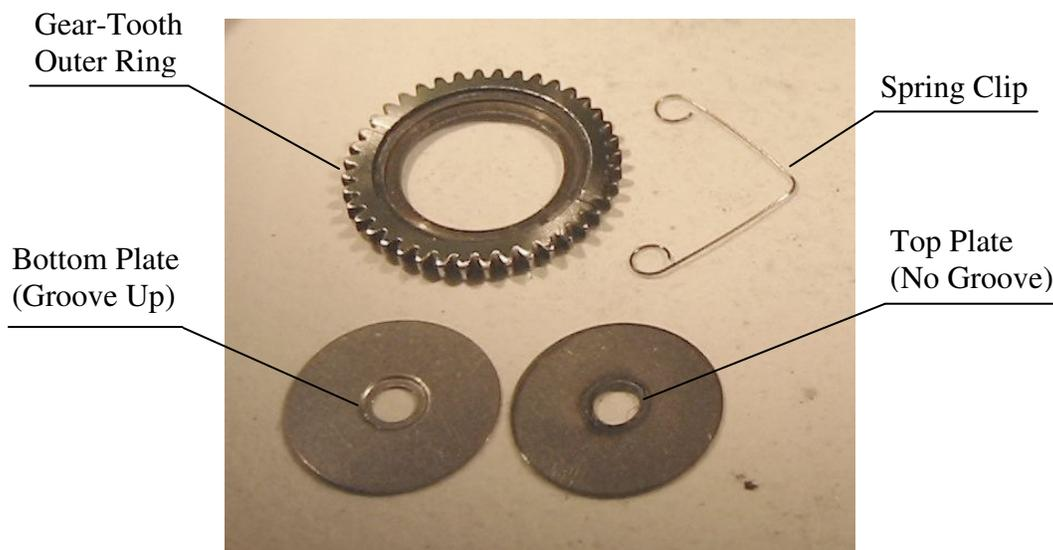

Figure 10 Individual components of a Fishione high-angle specimen holder.
- (1) Place a circular-aperture bottom-plate (groove face up) onto a gear-tooth outer ring (see Figure 10);